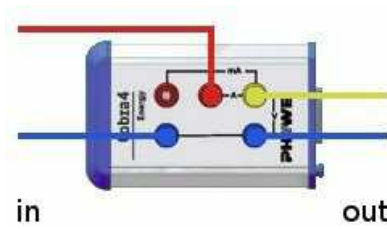

Fig. 3: Connection between Cobra4 Sensor Unit Energy and the power supply ("in") and the heating coil ("out").
- Connect the power supply and the heating coil with the Cobra4 Sensor Unit Energy as shown in Fig. 3.